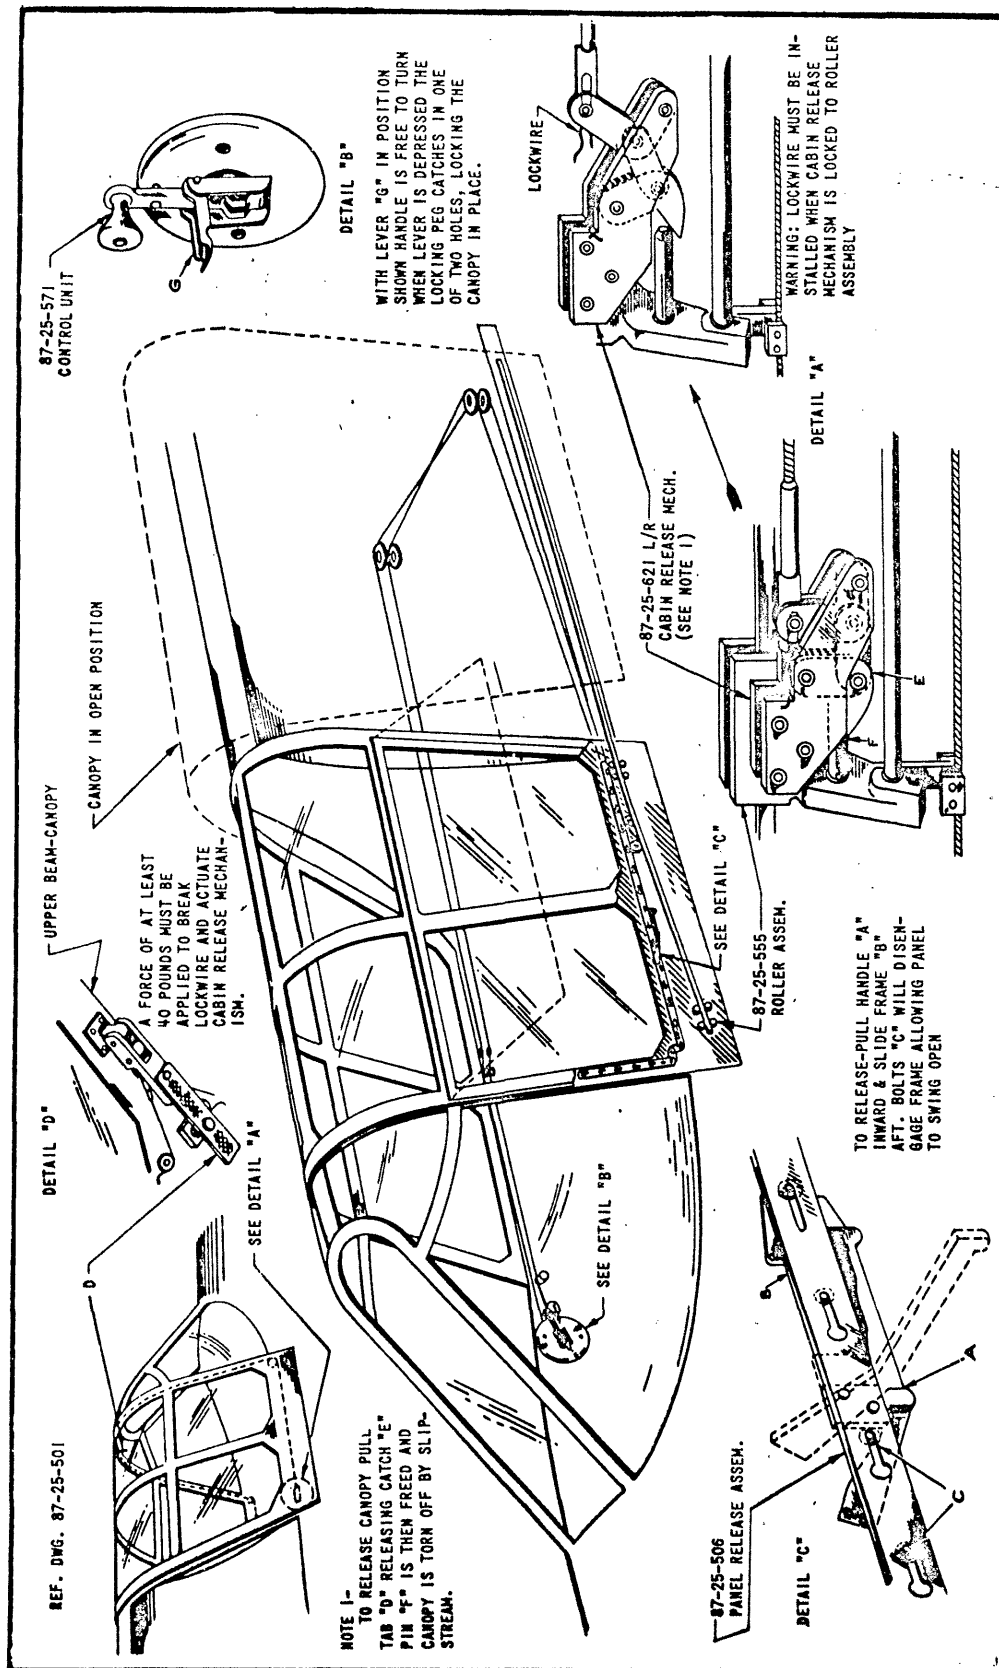

Figure 106 - Detail Operation of Cabin Controls
(5) Windshield Defroster. - The glycol spray installation consists of a tank, jet tube, and pump connected by 3/16 inch copper tubing. The tank is mounted on the front, left top of the firewall. The filler can is located on top of the tank, and is accessible when the left top engine cowling is removed. The tank capacity is 3.2 quarts. A 3/16 copper tube connects the tank to the pump, which is hand operated, and is mounted directly below the engine primer. The pump is connected to the jet tube by a 3/16 inch copper line. The jet tube is mounted at the base of the windshield and extends approximately six inches along the periphery of the fuselage.
(6) Cockpit Enclosure ( drawing 87-25-501 ). The cockpit enclosure is made of eight pieces of "Plexiglas", supported in an aluminum alloy frame. The frame is mounted on four ball bearing roller assemblies, which travel on tracks on each side of the fuselage. It may be moved to the desired fore and aft position by a handcrank located on the forward right-hand side of the cockpit. (See detail "B", figure 106.) This crank may be disengaged, in case of emergency, by pulling the lever "G" to a horizontal position, as shown in detail "B". The canopy can then be moved forward or aft by hand. The emergency canopy release "D" is located on the forward part of the upper beam in the canopy. The complete canopy may be released from the roller assemblies in flight by pulling release tab "D" with a force of at least forty pounds, which actuates the canopy release mechanism, breaking the lock wires as shown in detail "A". It is imperative that these lock wires are installed, and the canopy release mechanism should be inspected before each flight, to insure the safe operation of the canopy. If the lock wires are not installed, the canopy might be torn off by the slipstream, causing serious damage to the airplane. In the event of a turn-over on the ground, pull the handle "A" (detail "C") inward and aft to allow the escape panel to swing open. This emergency exit may also be opened from the outside by means of a handle located on the lower left-hand enclosure frame. (See detail "C".) When the airplane is parked, the cockpit enclosure may be locked by tipping the lever in the lower, rear, left-hand corner of the enclosure frame and inserting a padlock in the hole provided.